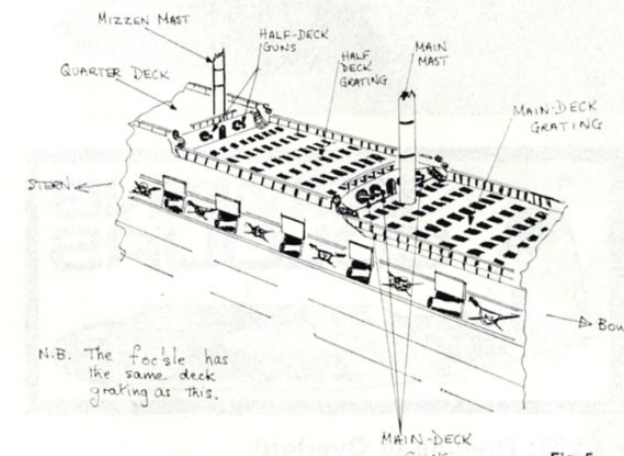

Fig 5
- (9) Two sets of guns, called 'murderers' and firing a 2 lb ball arranged to fire across the half-deck and main-deck when the ship was boarded in battle are missing. This mistake is most peculiar, because the bulkheads in the kit have four gun-ports indicated but no guns to fill them, and, according to the instructions, are to be fitted to fire at each other (ie, they face across the main-deck instead of being set on two different decks)—see Fig 5.
- (10) The gratings, which protected the upper decks from flying splinters in battle, across the main, half and fo'c'sle decks are missing. These gratings were removed in 1651, so all you need do is change the date on the identity plate for the kit to be accurate in this respect. This might also make the name right, for when she was launched in 1637 she was called *The Sovereign of the Seas*, not *Royal Sovereign*. This is the biggest mistake of the lot! (See Fig 5 for the gratings.)